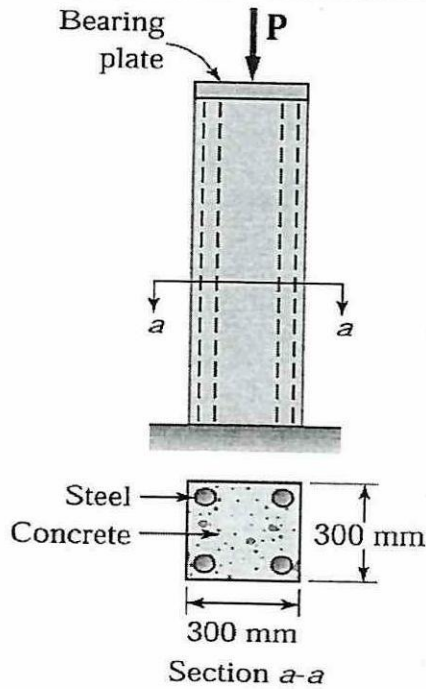

Figure Q1(b)
- Q1** (a) Divide materials into **two (2)** broad categories. Differentiate the stress-strain diagram for both materials. (6 marks)
- (b) **Figure Q1(b)** shows the concrete post is reinforced axially with four symmetrically placed steel bars, each with a cross-sectional area of 900 mm^2 . The axial load, P with 1 MN is applied to the concrete. The modulus of elasticity is 14 GPa for concrete and 200 GPa for steel. Determine: